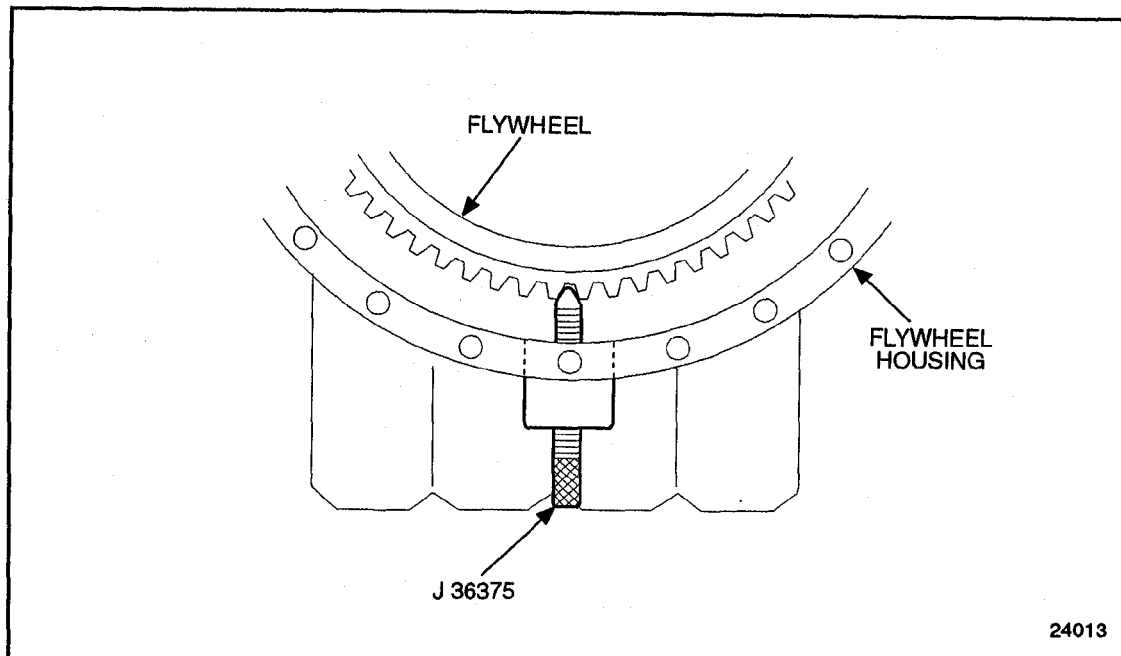

Figure 1-218 Flywheel Lock
1. Install the flywheel lock, J 36375-A. See Figure 1-218.